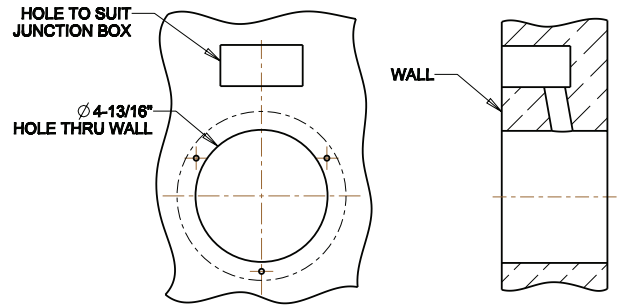

FIGURE 1
2. Mark a circle 6-1/16" in diameter in the selected location and mark the center. This is to be sure that the louvered covers will fit the selected location. Using the same center, cut a 4-13/16" diameter hole through the panel (Fig. 1).
6. With the ground screw (in the valve assembly) in the bottom position, place the louver over the valve assembly with the openings facing down and line up the screw holes in the louver, the valve assembly, and the gasket. While holding the parts lined up, place the valve assembly into the sleeve (Fig. 1).